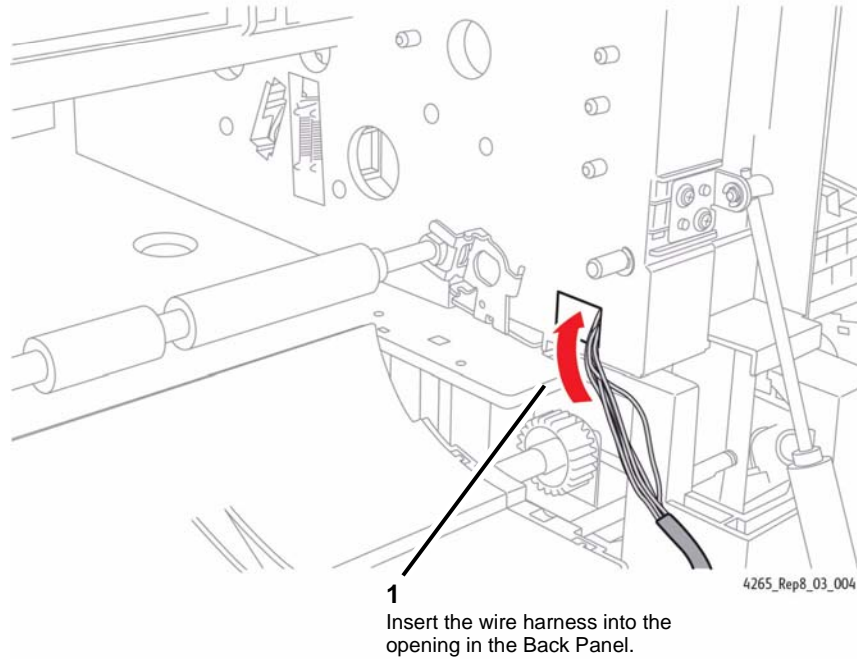

Figure 4 Inserting Wire Harness through the Back Panel
1. Insert the wire harness back into the opening in the Back Panel prior to reinserting the Paper Transport Assembly back into the machine (Figure 4).